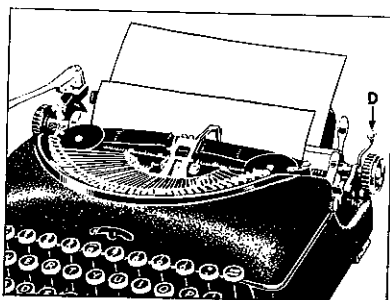

Fig. 3
Lever (D) shown in Fig. 3, when pushed back, releases paper so it can be adjusted to any position or straightened without being removed from machine.